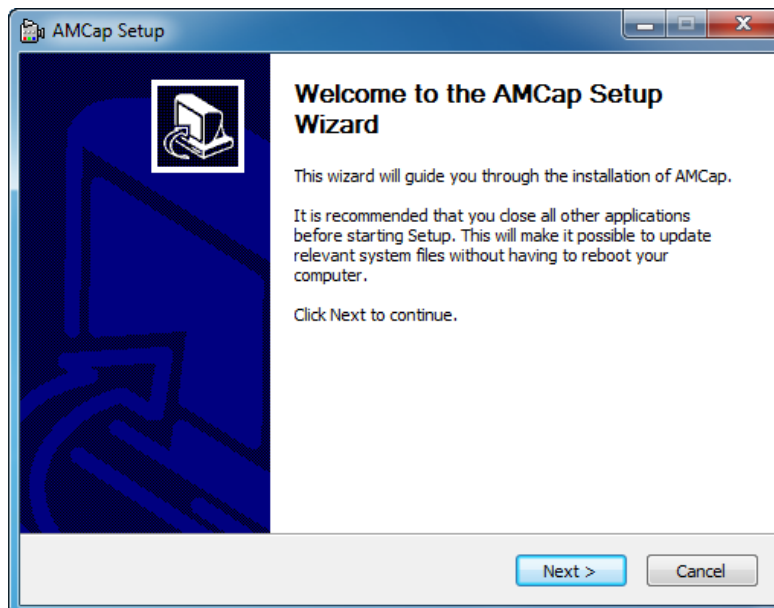

Figure 8-48: AMCap Driver Choose Install Location
Step 10: Browse for an install location or use the one suggested (Figure 8-48).